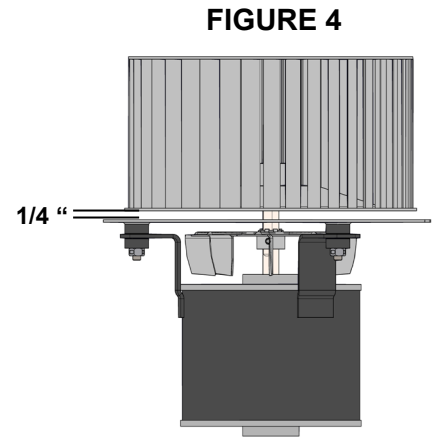

FIGURE 4
10. Using 5/32" Hex wrench, loosen the two (2) set screws on the blower wheel.
12. Slide the new blower wheel onto the motor shaft ensuring the set screws are aligned with the two (2) flat faces of the shaft. Leave 1/4" gap (Figure 4) between the wheel and mounting plate. Tighten set screws to 120 in/lbs.